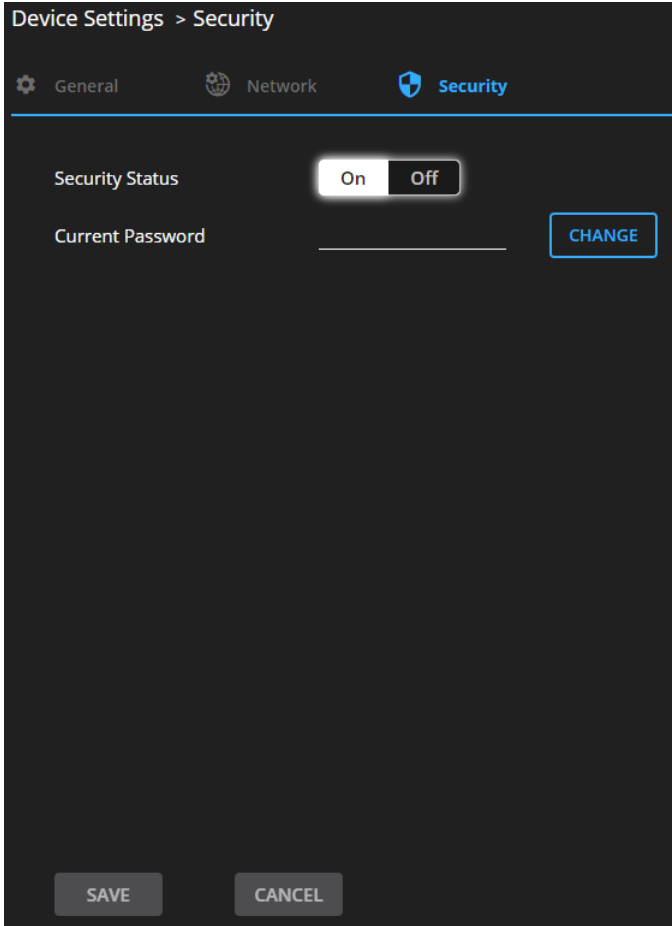

Figure 58: General Settings Tab – Security
2. Click **On**. The full security page appears (see Figure 58).
1. In the Navigation pane, click **Settings**. The Settings page appears, displaying the Security area (see Figure 58).